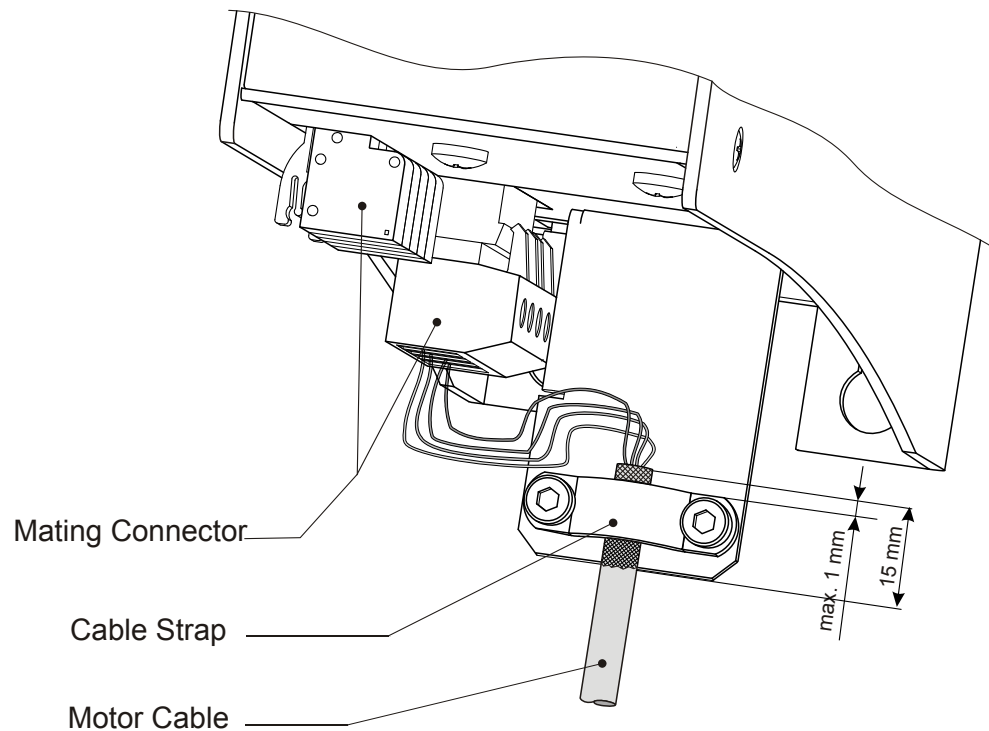

Fig. 3: EMC-compatible connection of motor cables
-  Fix the cable strap serving as strain relief and motor cable shield next to connector X62 (see fig. 3, page 21).
- Connect the motor lines according to fig. 3, page 21.